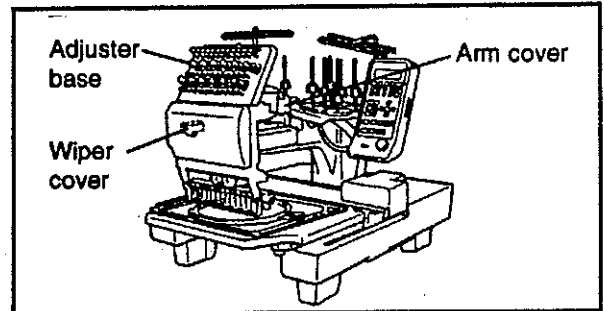

FIG.1
- (1) Remove the arm cover, wiper cover, and adjuster base (Fig.1).